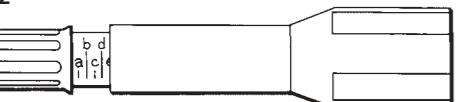

FIG 3
**Note:** The scale marks are for guidance only. Due to variation in syringe needle lengths, depth of penetration should be measured and the depth adjuster set accordingly each time a new syringe is used. This ensures that the dose is always administered to the correct penetration depth. In order to measure the depth of penetration of your syringe needle, adjust the depth adjuster to the correct setting for your required needle penetration depth. Insert an empty syringe without needle cover in place, into the syringe housing and press firmly up into the housing until it will go no further and the needle protrudes from the depth adjuster. Check that the length of the needle protruding is correct by measuring against the scale on the yellow primer and depth guide (**Fig 3**). If the length of needle is incorrect, screw the depth adjuster in or out to increase or decrease, respectively, the depth of needle penetration so that it is at the desired setting.